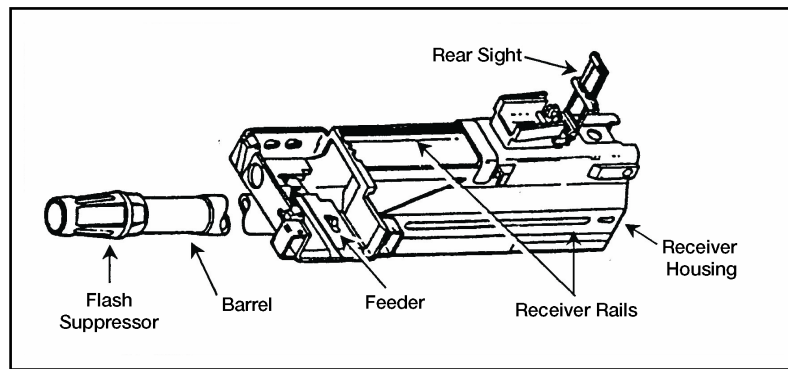

Figure 071-030-0001-15. Receiver assembly
a. Clean the receiver assembly (figure 071-030-0001-15).
(1) Apply solvent to a rag or brush. Wipe or brush dirt away from all parts, especially the interior of the receiver housing, receiver rails, and feeder.
(2) Swab out the bore and chamber, using a bore brush and RBC.
(3) Wipe all parts dry.
b. Clean the receiver sear assembly (figure 071-030-0001-14).
(1) Use only cleaning solvent on a rag or brush.
(2) Wipe or brush away dirt.
(3) Wipe dry.